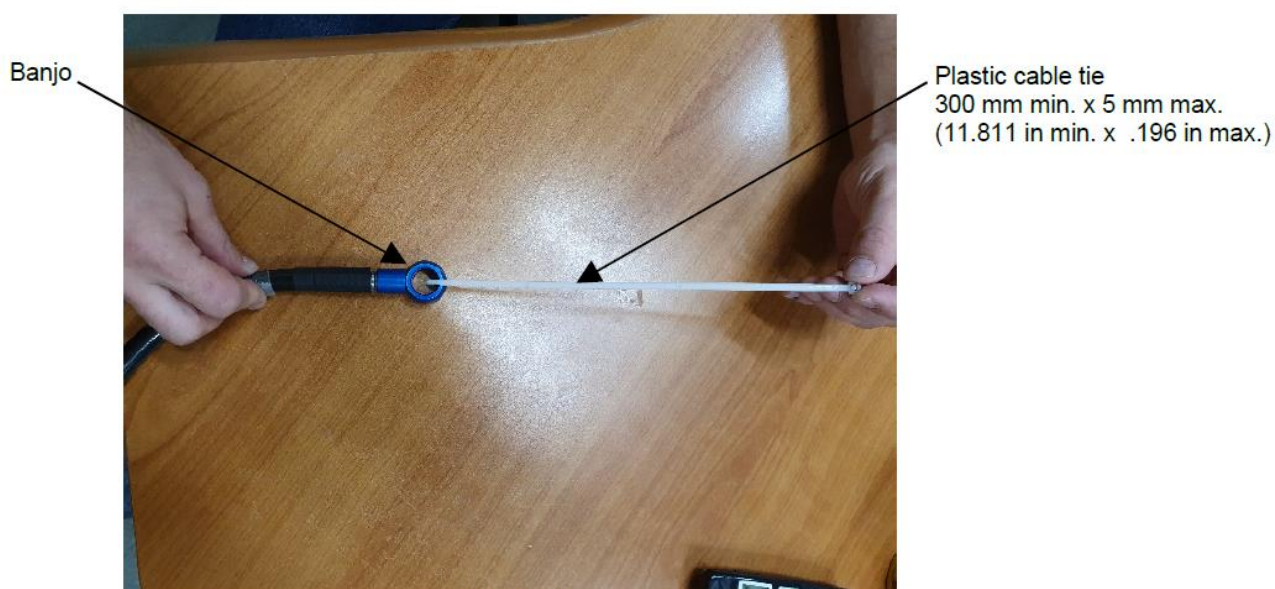

Figure 1
- (1) Inspection of single section hoses (in-service equipment, spare component and Part 21 material)
- (a) Insert the end of plastic cable tie in the hole of outlet fitting (or banjo) (refer to Figure 1):
- (b) After inspection, identify the hose inspected and found operative by applying a visible green "dot" on the base of the verified outlet fitting (or banjo) with a green Dykem mark & code pen ref. 84007 (or equivalent indelible green marking).
(2) Inspection of hoses with more than one section (in-service equipment and spare component)
- (a) For each section of the hose to be inspected, insert the end of plastic cable tie in the hole(s) of related fitting (or banjo) (refer to Figure 1):